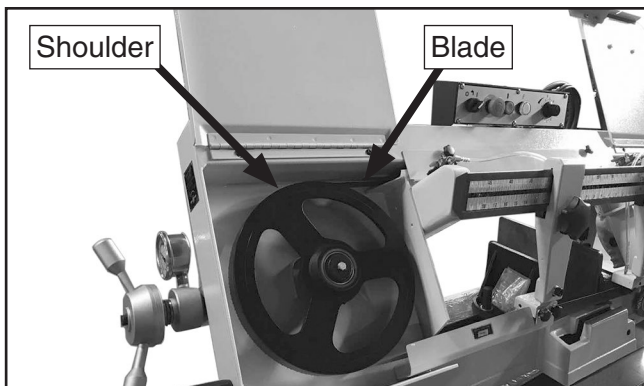

Figure 23. Back of blade against wheel shoulder.
8. Apply a light amount of tension to hold blade in place. Work your way around blade to adjust position so back of blade is against shoulder of wheels, as shown in **Figure 23**.